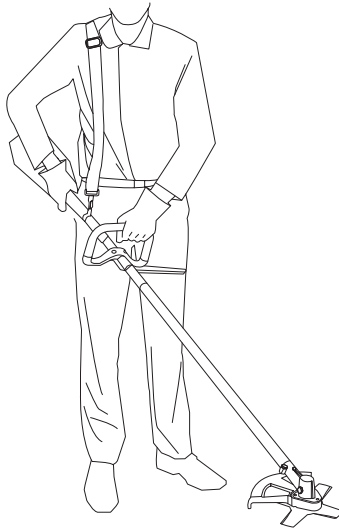

Fig. 10
- 2). Put the strap on; the strap must lead over your right shoulder . (See Fig. 10)